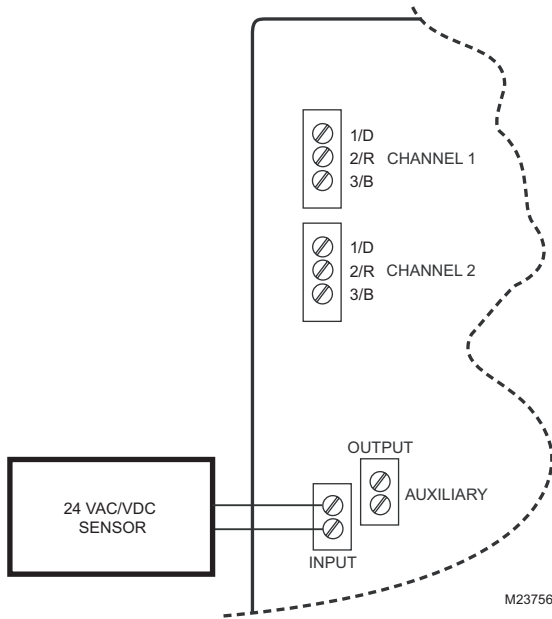

Fig. 15. Wiring the AUX-IN Terminal Block to a 24 Vac/dc Sensor.
- Connect a 24 Vac/dc sensor. See Fig. 15 on page 11.